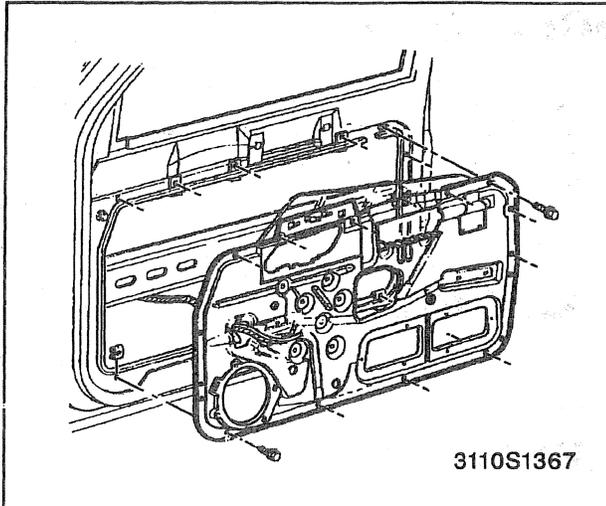

Figure 3—Front Door Power Accessory Mounting Panel
#### ↔ Remove or Disconnect (Figure 3)
### Install or Connect (Figure 3)
- Carefully bend retaining clips outward while pulling out bezel. Refer to arrows shown in figure 3.